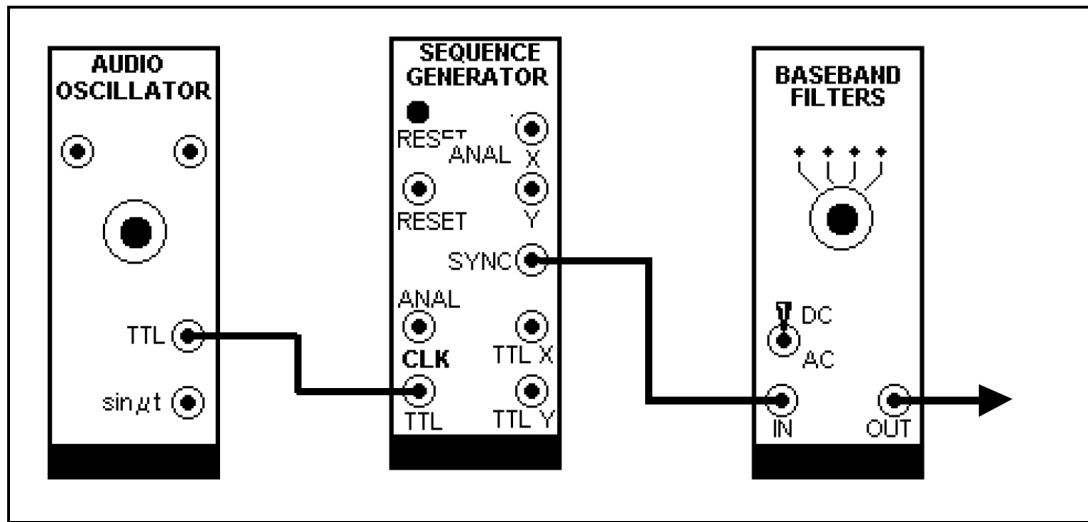

Figure 2: Task 2 — Channel impulse response
1. Connect the circuit in Figure 2. Also, connect the TTL output of the AUDIO OSCILLATOR to the TTL input of the FREQUENCY COUNTER in the bottom row of TIMS. Set the AUDIO OSCILLATOR to 0.8 kHz. Connect the BBCF input to the SYNC output of the SEQUENCE GENERATOR as in Figure 2. Pull out the SEQUENCE GENERATOR and check that the on-board DIP switch is in correct position for a short sequence, that is, both are at the upper position. Select BBCF Channel 3 and display the output and input of the BBCF on the scope. Notice that the input consists of a periodic train of widely separated impulses. The output should appear as a fully formed delayed imitation of the input. Set the time base to display one pulse only. Set the FREQUENCY COUNTER knob to 1s, and progressively increase the AUDIO OSCILLATOR frequency to 1600 Hz and observe the effect on the pulse width and pulse interval. Note that the transitions are not affected. As you continue to increase the clock frequency, the flat top between transitions gets shorter, and ultimately disappears. Record the clock frequency at which this occurs and show to the tutor at the end of this task. [Marks: 1]